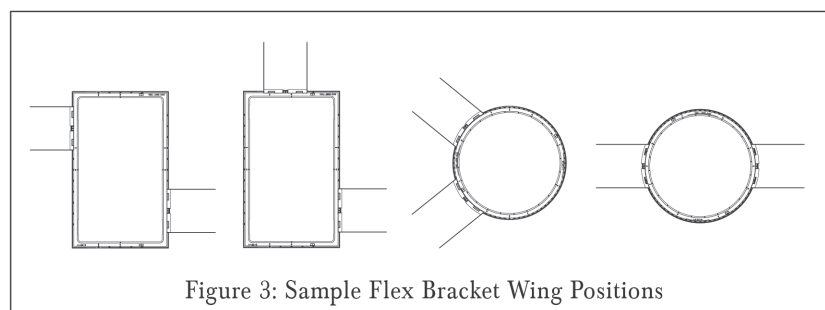

Figure 3: Sample Flex Bracket Wing Positions
- Once they are attached to the Flex Bracket frame, the Flex Bracket wings can be positioned anywhere around the frame (see *Figure 3*).